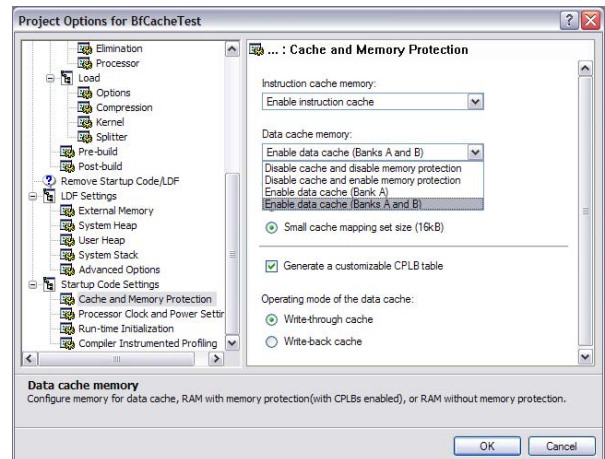

Figure 29. Project Options: Startup Code Settings: Cache and Memory Protection
4. All settings can be modified in the Project Options dialog box. The files will then be re-created (Figure 29).